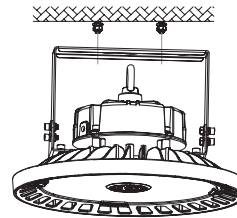
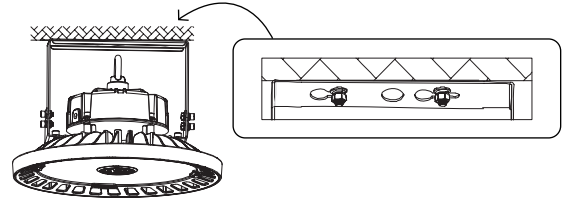

Fig. 5
Fig. 6
3. Align the bracket hole with screw hole (Fig. 5), and push the fixture to one side (Fig. 6) and fix it.